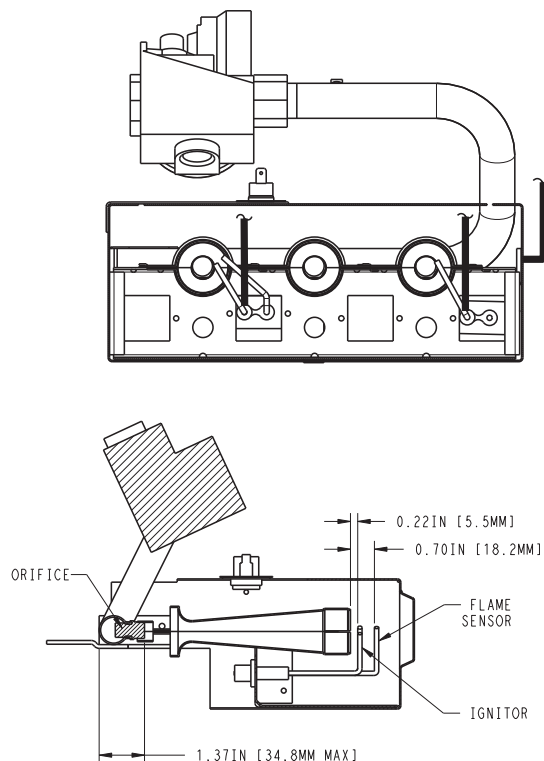
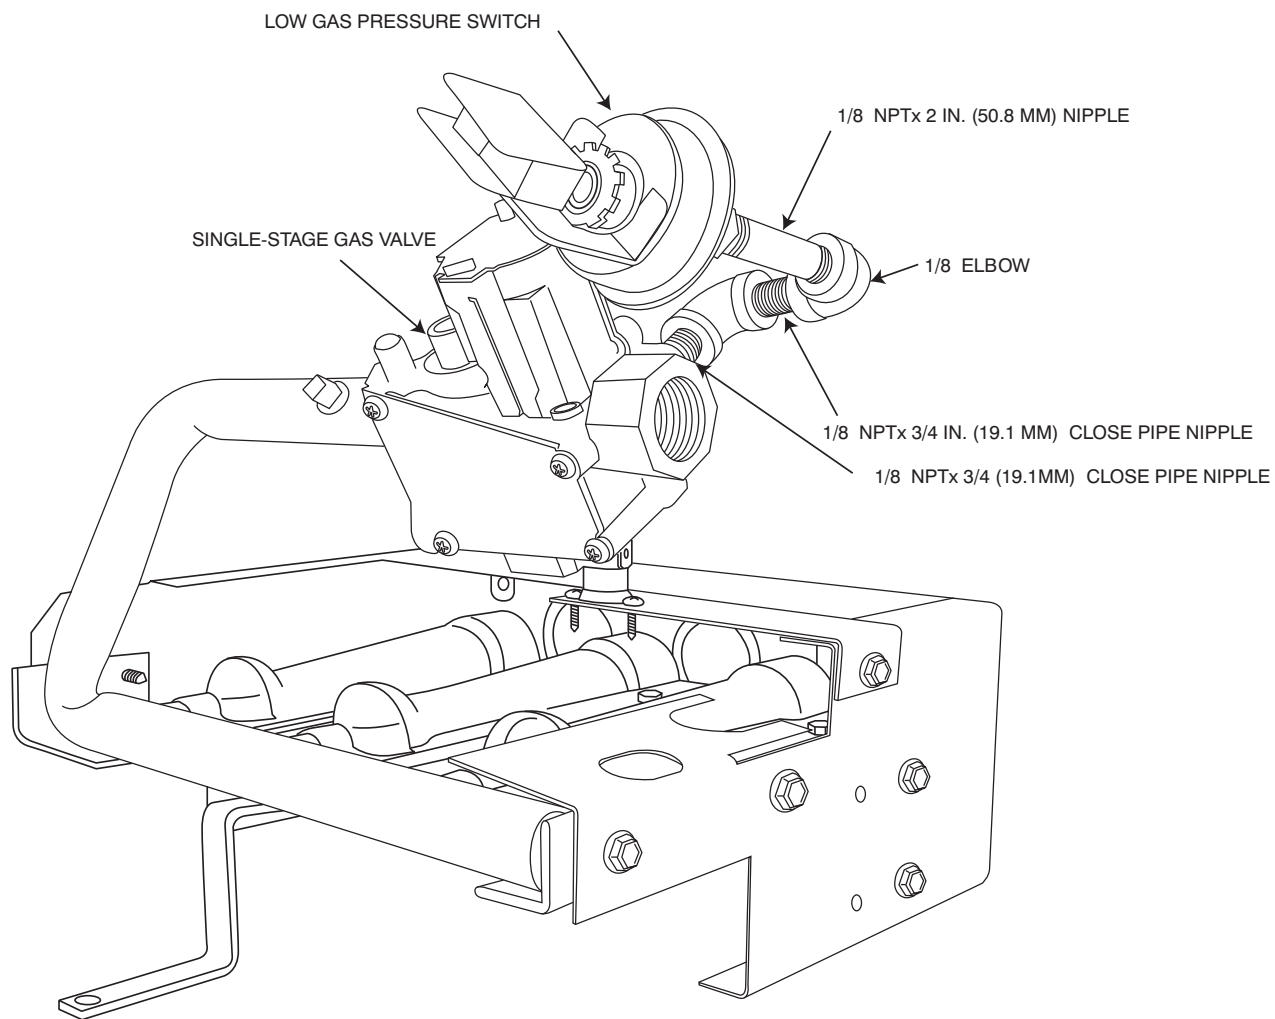

Fig. 13 - Single-Stage Igniter, Flame Sensor, Orifice/Main Burner Relationship
Fig. 19 - Installing Elbows, Nipples, and Pressure Switch on Single-Stage Units
12. Remove the natural gas orifices from the manifold using a 9/16 in. wrench and install the correct propane gas orifices in the manifold (See Table 4 to select correct orifice size based on rated input. See Fig. 13 and 15 for orifice installation).
13. Replace the manifold/gas valve assembly into the burner assembly using the four screws saved from item 11.
15. Install the 1/8 in. NPT x 3/4 in. (19 mm) close pipe nipple where the plug was removed (see Fig. 19). Use pipe thread dope (field-supplied, must be certified for use with propane gas) for all joints, making sure not to get any excess in the pipe or valve. Next, install a 1/8 in. elbow, a 1/8 in. NPT x 3/4 in. (19 mm) close pipe nipple, 1/8 in. elbow, 1/8 in. x NPT 2 in. (51 mm) nipple, and a low gas pressure switch as shown in Fig.19.
21. Verify igniter, ignitor, flame sensor, orifice/main burner relationship prior to completing conversion. (See Fig. 13.) Partially slide burner rack assembly into unit.